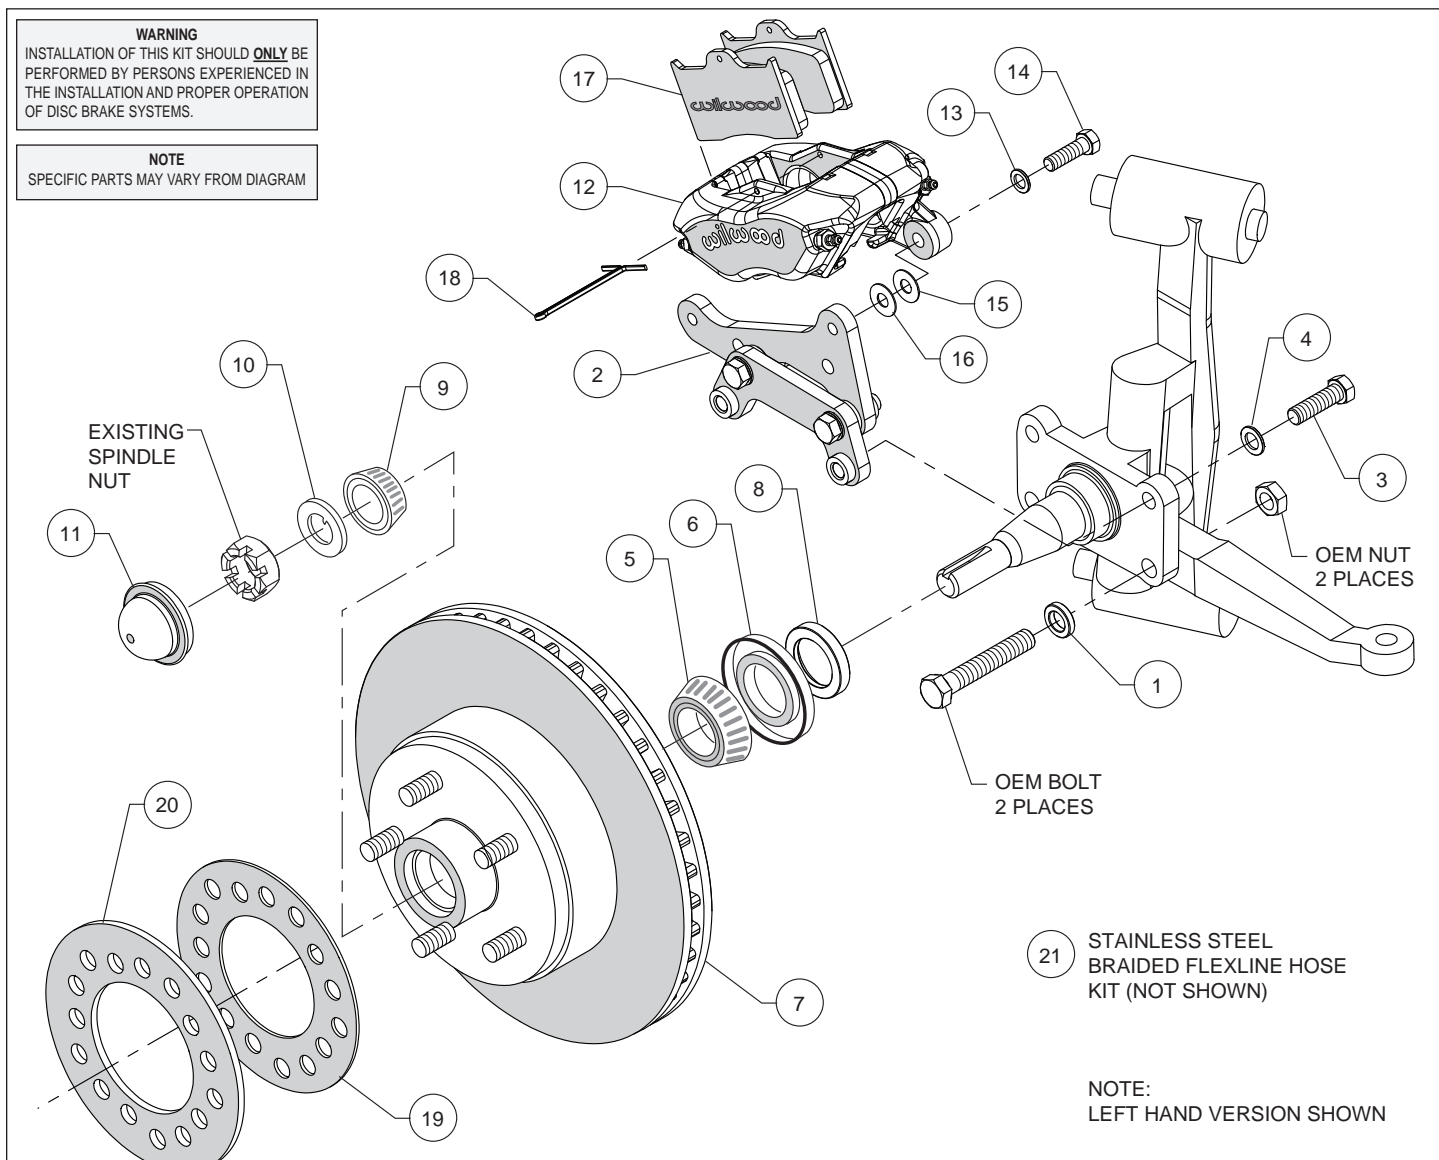
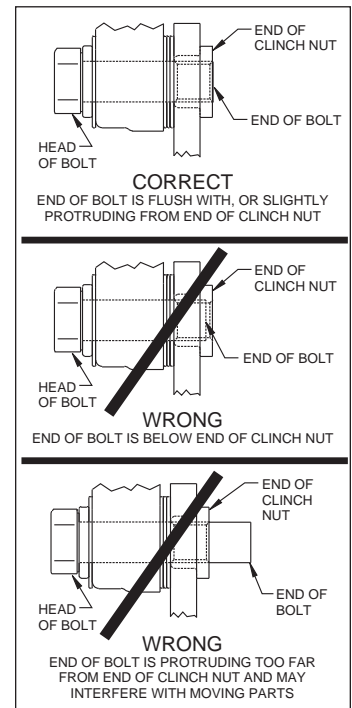

Figure 1. Typical Installation Configuration
Figure 3. Clinch Nut Engagement Diagram
**Assembly Instructions** (numbers in parenthesis refer to the parts list, on the preceding page and Figure 1): **CAUTION:** All mounting bolts must fully engage clinch nuts. Be sure to check that all bolts are either flush or protruding through flanged side of clinch nut after shimming, Figure 3.
- One at a time, remove the two lower OEM bolts that secure the steering arm from the back side of the spindle. Place spacer (1) on each bolt on the outboard side of spindle face and reinstall using OEM nut as shown in Figure 1 and Photo 1. Torque nut to manufacturer's specifications.
- Orient the caliper mount bracket (2) as shown in Figure 1 and Photo 2, and install using bolts (3) and washers (4). Ensure that the flanged heads of the clinch nuts in the bracket are facing outboard, Photo 2. Temporarily tighten the mounting bolts. **NOTE:** The bracket must fit squarely against the mount bosses on the upright. Inspect for interference from casting irregularities, machining ridges, burrs, etc. Remove bolts one at a time, apply red *Loctite*® 271 to the threads and torque to 60 ft-lb.
- Pack the large inner bearing cone (5) with high temperature disc brake bearing grease (available from your local auto parts store) and install into the backside of the hub (7), Photo 3.
- Press the dust cap (11) into the hub (7).
- NOTE:** Please reference the caution statement at the beginning of the assembly instructions. Mount the caliper (12) onto the caliper mounting bracket (2) using bolts (14) and washers (13), as shown in Figure 1. Initially place one .035" thick shim (15) and one .016" thick shim (16) on each bolt between the caliper and the bracket, Photo 6. Temporarily tighten the mounting bolts and view the rotor (7) through the top opening of the caliper. The rotor should be centered in the caliper, Photo 7. If not, adjust by adding or subtracting shims (15 and/or 16) between the bracket and the caliper. Always use the same amount of shims on each of the two mounting bolts. **NOTE:** The end of each bolt must be flush with or slightly protruding from the head of the clinch nut, as shown in Figure 3. If necessary place spare shims between washer (13) and caliper mounting ear to achieve the proper clinch nut engagement. Once the caliper alignment and clinch nut engagement are correct, remove the bolts one at a time, apply red *Loctite*® 271 to bolt threads, and torque to 35 ft-lb.